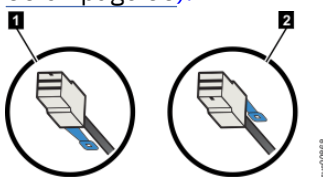

Figure 55. SAS cable connector orientation
- For Storwize V5000E control enclosures (and 2072-24F or 2072-12F expansion enclosures), the blue pull tab must be below the cable (1 in Figure 55 on page 55).
- For 2U expansion enclosures (12 or 24 drives), the blue pull tab must be below the cable (1 in Figure 55 on page 55).
- For 5U expansion enclosures, the blue pull tab must be above the connector (2 in Figure 55 on page 55).